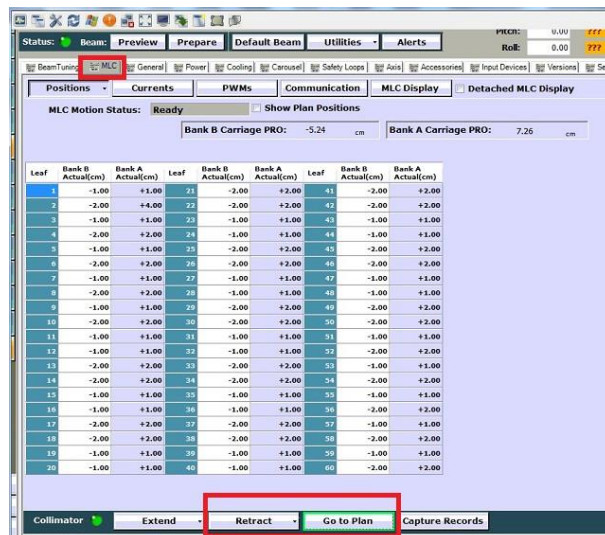

Figure 3: MLC Tab in Service Mode
7. Select **MLC** tab and then click on the **Go to Plan** button at the bottom of the screen. The MLC will drive to the field. See Figure 3.
11. After verifying the parallelism of the crosshair line to the MLC leaf banks, retract the MLC by pressing the **Retract** button at the bottom of the screen. See Figure 3.